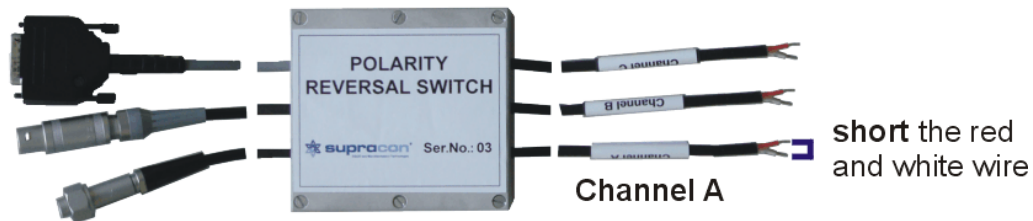

Figure 39: Short the wires of the channels by clamping the bare wires. **Do not solder the wires!** Only the short of channel A is shown for the sake of simplicity.
**Short the red and white wires of the channel which you would like to check, for example the red and white wires of channel A as shown in Figure 39.**